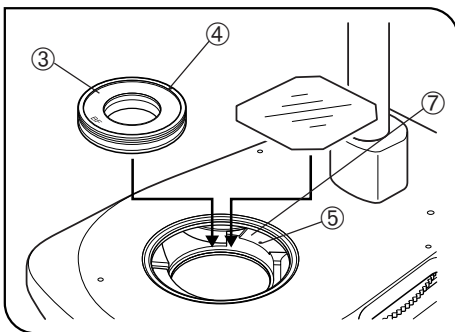

Fig. 5
1. Cut the four corners of each sheet film ① using a pair of scissors.
3. Place the sheet film(s) on the desired illumination cassette by inserting the rear side of each sheet film into the guide ⑦ on the turret. (Fig.5)